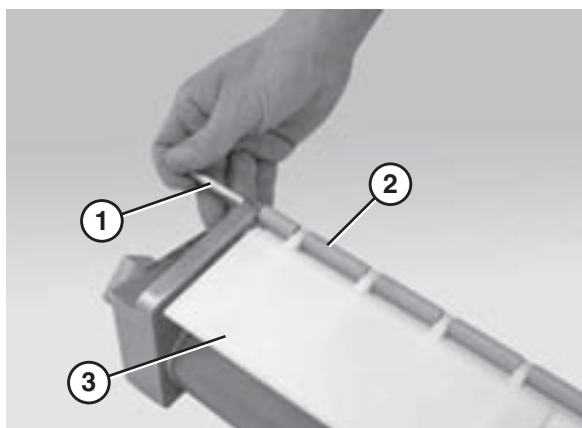

Figure 77
5. Remove the nose bar shaft (Figure 77, item 1), the rollers (Figure 77, item 2) and the roller mounts (Figure 77, item 3).